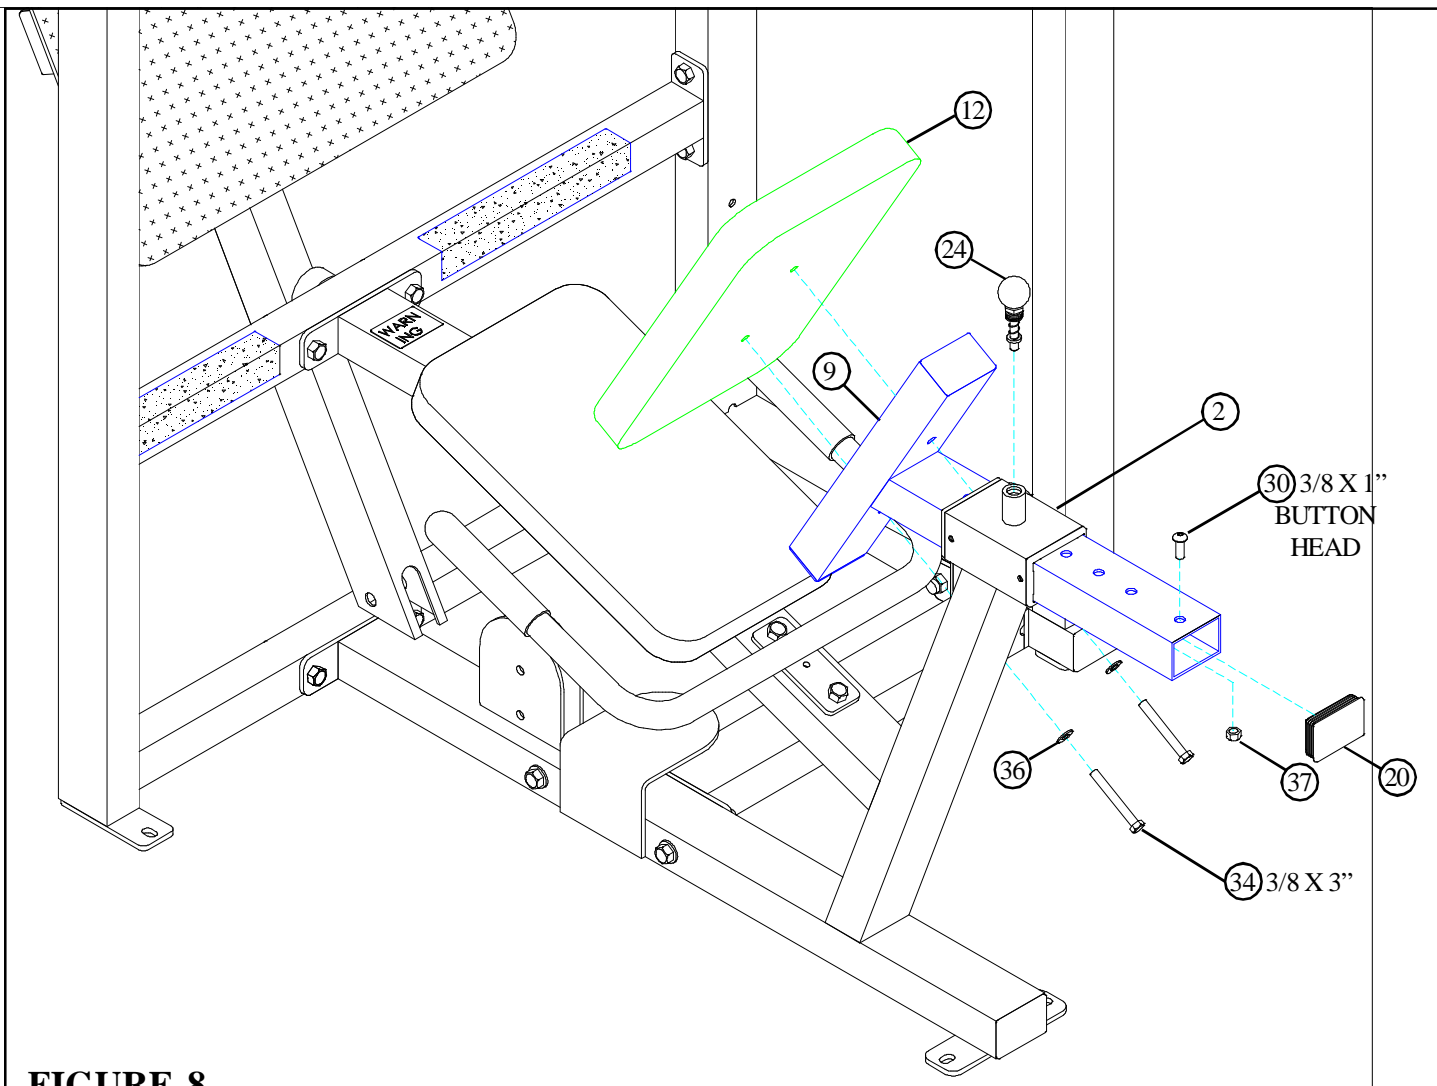

FIGURE 8
- **SECURELY** assemble the SEAT PAD (12) to the SEAT ADJUST (9) using two 3/8 X 3" BOLTS (34) and two 3/8" WASHERS (36). See FIGURE 8.
- **SECURELY** assemble one SPRING PIN ASSEMBLY (24) to the spring pin barrel on the FRAME (2) as shown in FIGURE 8.
- Insert the PAD (12) & SEAT ADJUST (9) into the FRAME (2) while pulling back on the SPRING PIN ASSEMBLY (24) until it engages in one of the adjustment holes. See FIGURE 8.
- **SECURELY** assemble one 3/8" X 1" BUTTON HEAD CAP SCREW (30) and one 3/8" LOCK NUT (37) to the last hole on the SEAT ADJUST (9). See FIGURE 8.
- **SECURELY** insert one 3 X 2" SQ. END CAP (20) to the open end of the SEAT ADJUST (9). See FIGURE 8.